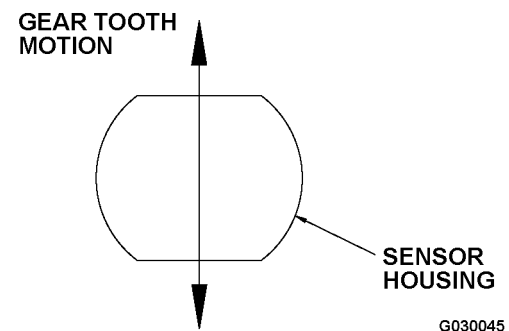

FIGURE 50-16. SPEED SENSOR ADJUSTMENT
- c. Continue turning out the sensor until the flats of the sensor housing are perpendicular to the gear tooth motion (See Figure 50-16).